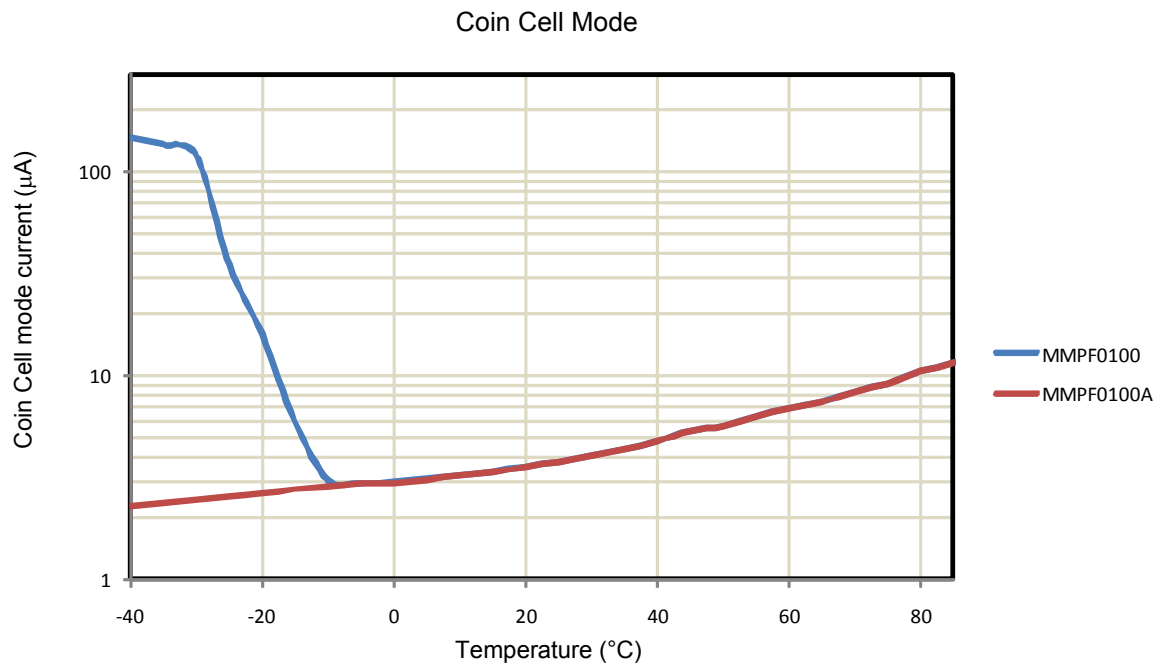

Figure 4. Current Overtemperature Waveforms
15. Refer to Figure 4 for Coin Cell mode characteristics over temperature.